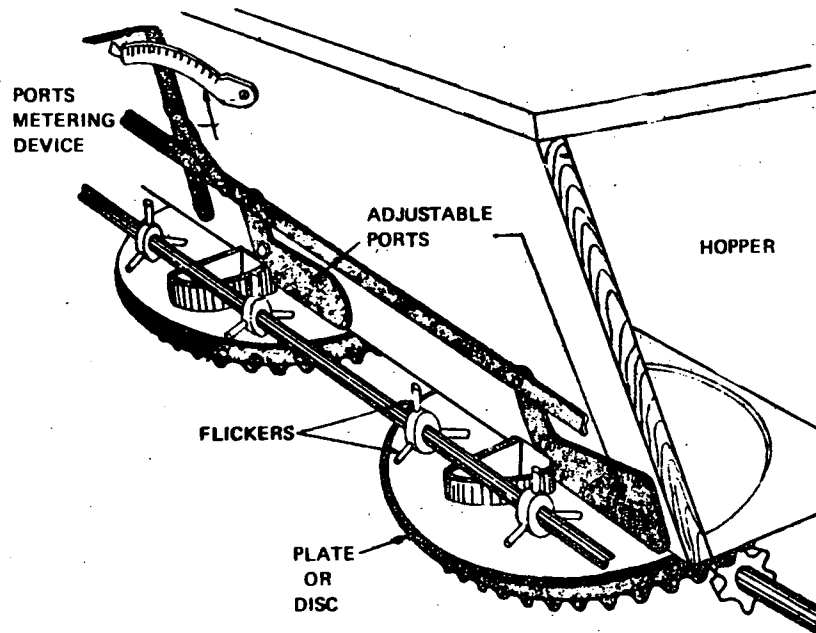
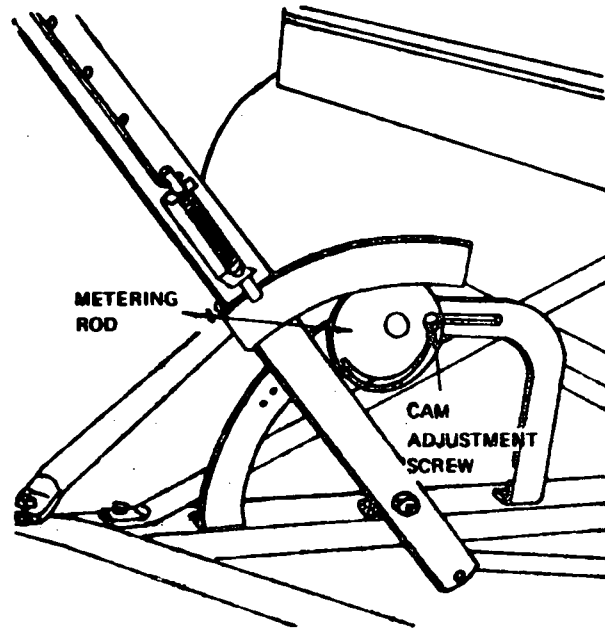

Fig. 7
Fig. 8
*Controls.* The ports are controlled by one or two levers which move along graduated scales (Figs. 7 and 8). In the case of Figure 8, the same lever also cut off the flow of the product at the headlands.